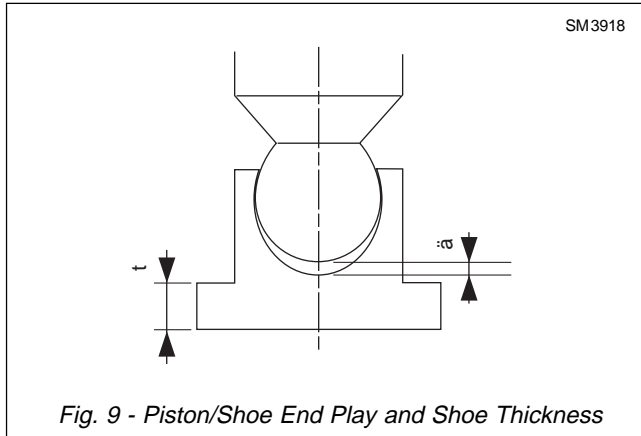

Fig. 9 - Piston/Shoe End Play and Shoe Thickness
2. Measure the end play between each piston and its shoe, identified as 'a' on Figure 9 below. Assess the clearance in each case, and use the table on Page 6 to determine whether or not to renew the pistons and shoes.
3. Measure the thickness of each shoe, identified as 't' on Figure 9 above. Use the table on Page 6 to assess whether or not to renew the pistons and shoes.